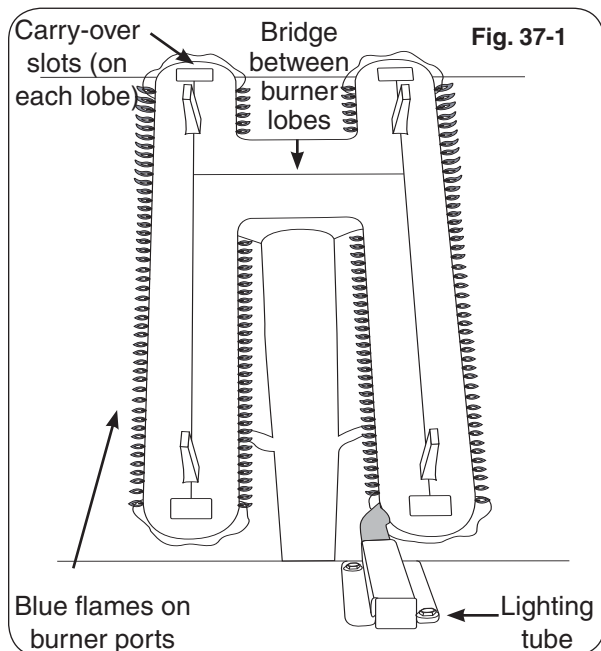

Fig. 37-1
Flames from a properly adjusted main burner with no wind or breeze present will appear fairly steady, consistent, and mostly blue. If the tip of a flame were to turn orange, it should only do so briefly and then become blue again. The flames will appear to burn while touching the burner ports (see Figure 37-1).
6. Repeat steps 1-4 until the flames appear to touch the burner ports, burning fairly steadily and mostly blue (see Fig. 37-1).